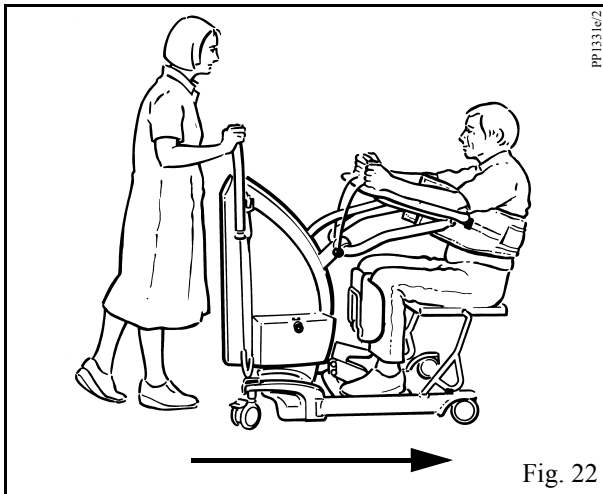

Fig. 22
If required insert the detachable seat frame into the receptor holes in the chassis legs, then lower the patient to a comfortable seating position for commode toileting or longer distance transportation. (See Fig. 22).
*Transportation should be done with the chassis legs closed, it will be easier through doorways etc. Always move in the direction shown in Fig. 22.*